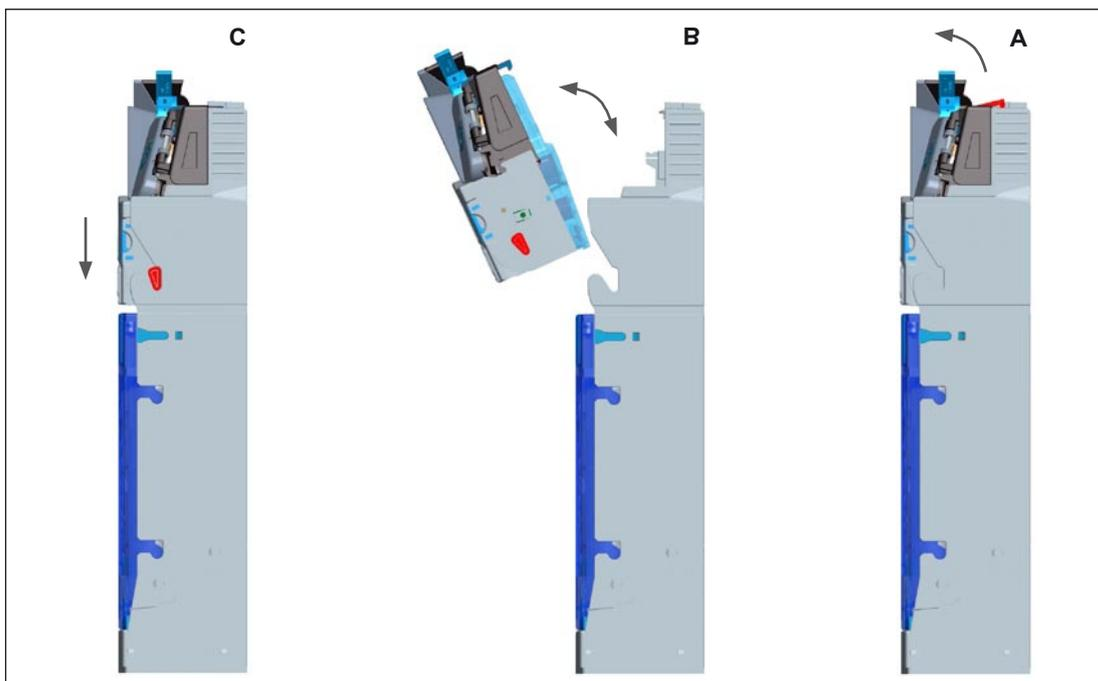

Fig. 2: Removing and reinstalling coin validator
- 2 Unlatch coin validator and remove it from the changer (see Fig. 2, A & B).
4 Reinsert coin validator until it clicks in position (see Fig. 2, B & C).